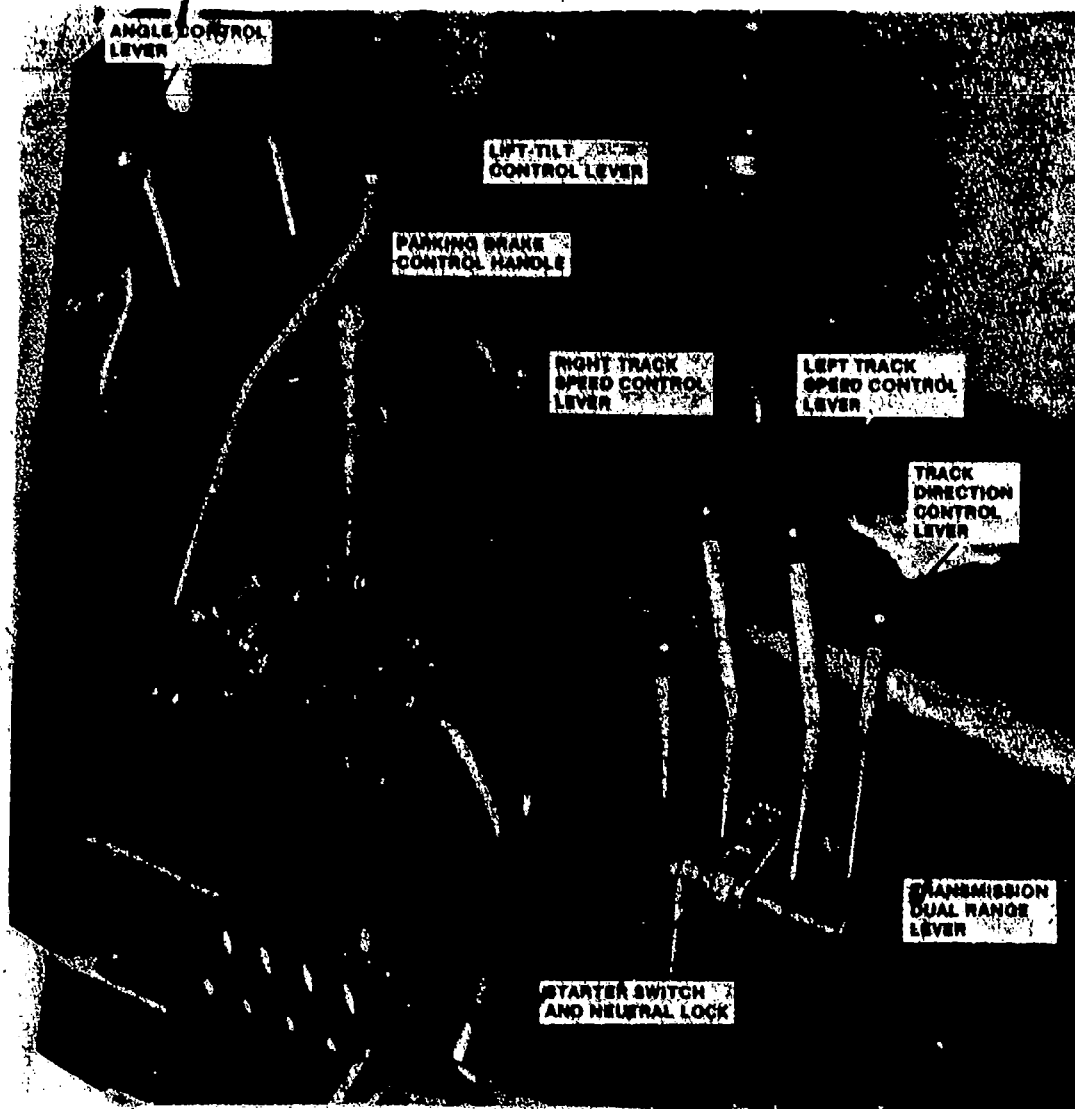

Fig 4-5. Operator's console and adjacent controls.
- Set the transmission dual range control (fig 4-5) in high or low, depending on the work to be done.
- Check to see that the direction control lever (fig 4-5) and track speed control levers (fig 4-5) are in neutral. (The neutral lock (fig 4-5) should be in place on the track speed control levers.)
- Set the parking brake (fig 4-5).